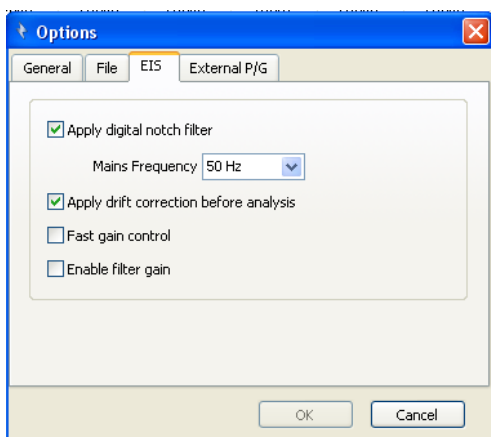

Figure 14 Options: EIS Menu
**File:** Allows control of and file management settings. If **Automatically save data** option is selected, **Automatic file name** and **Data file format** are enabled. See Fig 14
**Options: EIS:** See Figure 14